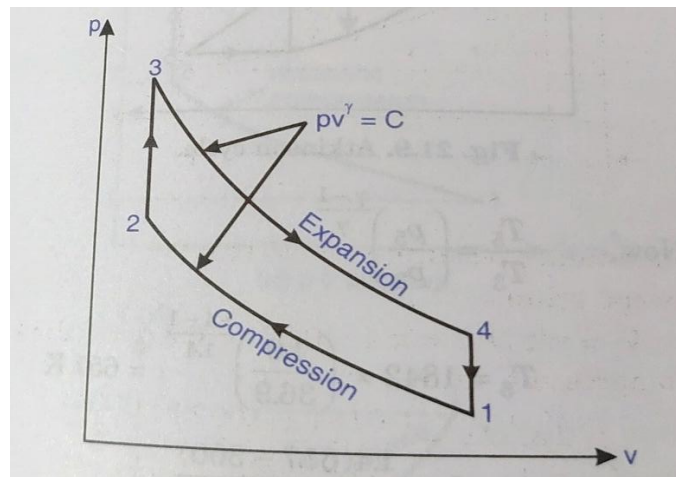

Fig. 4.2 Example – 2
**Solution.** Refer to Fig. 4.2. Given :  $p_1=100$  kPa= $10^5$ Pa or 1 bar.